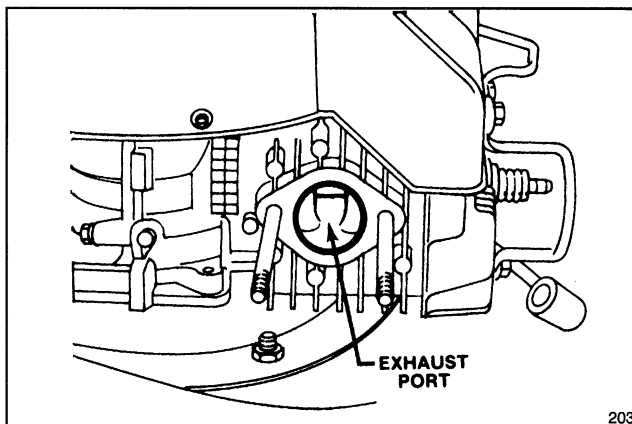

Figure 20
4. Slowly pull recoil starter so piston covers exhaust port (Fig. 20).
5. Clean carbon from exhaust port (Fig. 20) with flat, hard wood scraper.